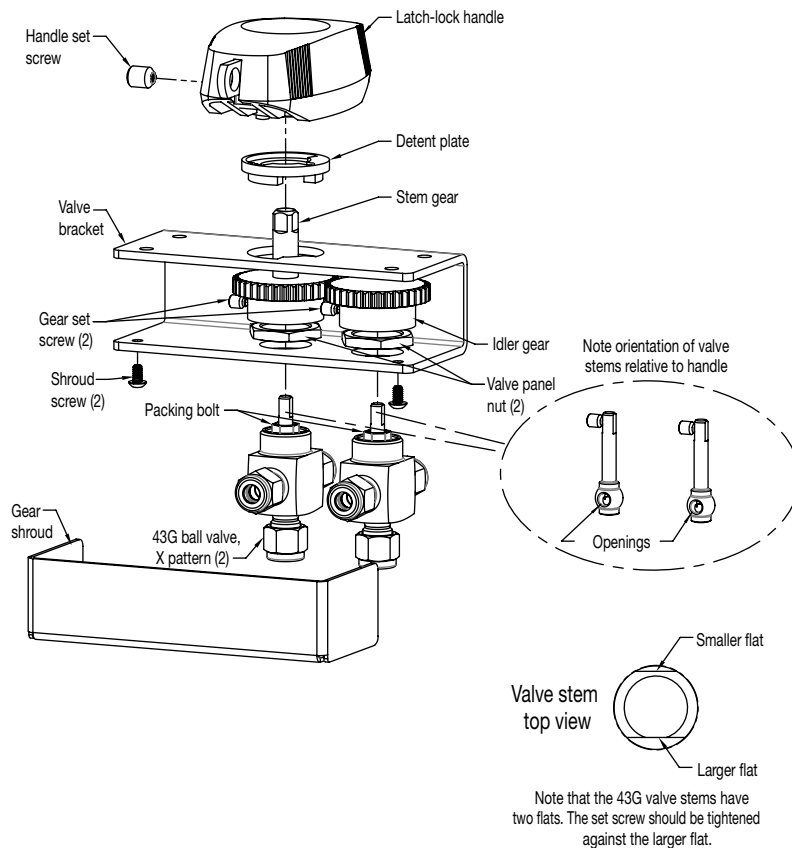
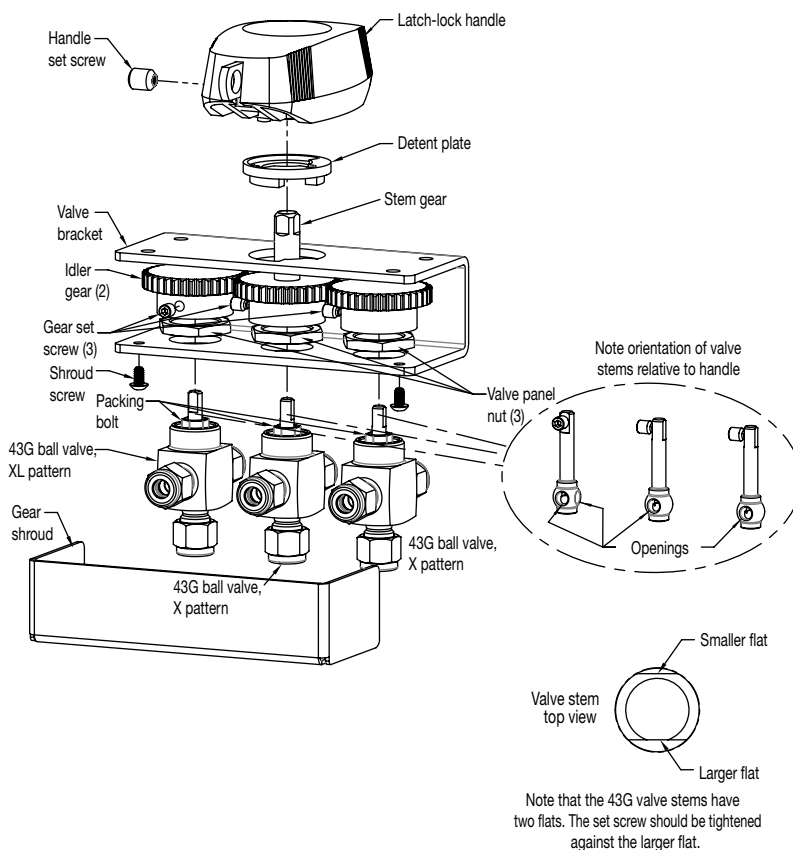

Fig. 9 2-Valve GSM Assembly Exploded View
Fig. 12 3-Valve GSM Assembly Exploded View
- Remove handle and detent plate by loosening handle set screw. Refer to Fig. 9 for 2-valve assemblies and Fig. 12 for 3-valve assemblies.
- Without rotating the gears, mount to rear of panel using (4) 1/4-20 UNC machine screws. (not supplied)
Removing the valves from the valve bracket is not required. Refer to Fig. 9 for 2-valve assemblies and Fig. 12 for 3-valve assemblies.